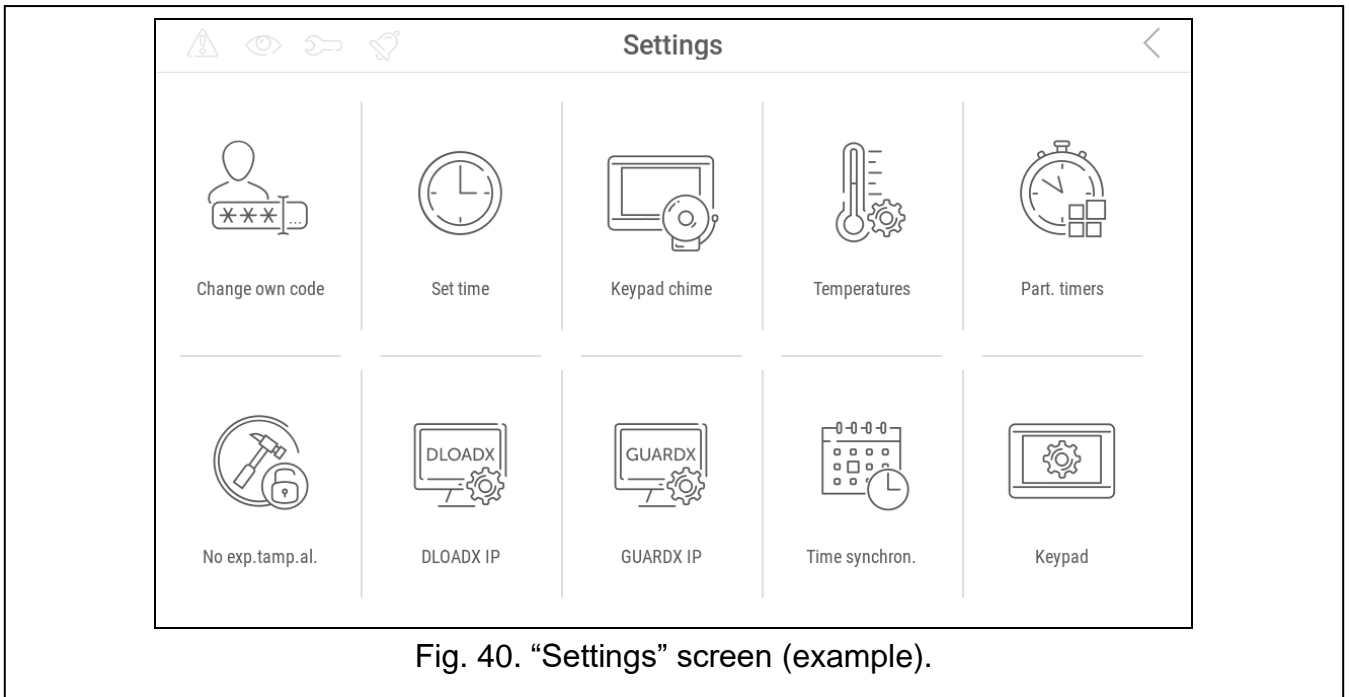

Fig. 40. "Settings" screen (example).
5. Tap the “Settings” function. The “Settings” screen will be displayed (Fig. 40).